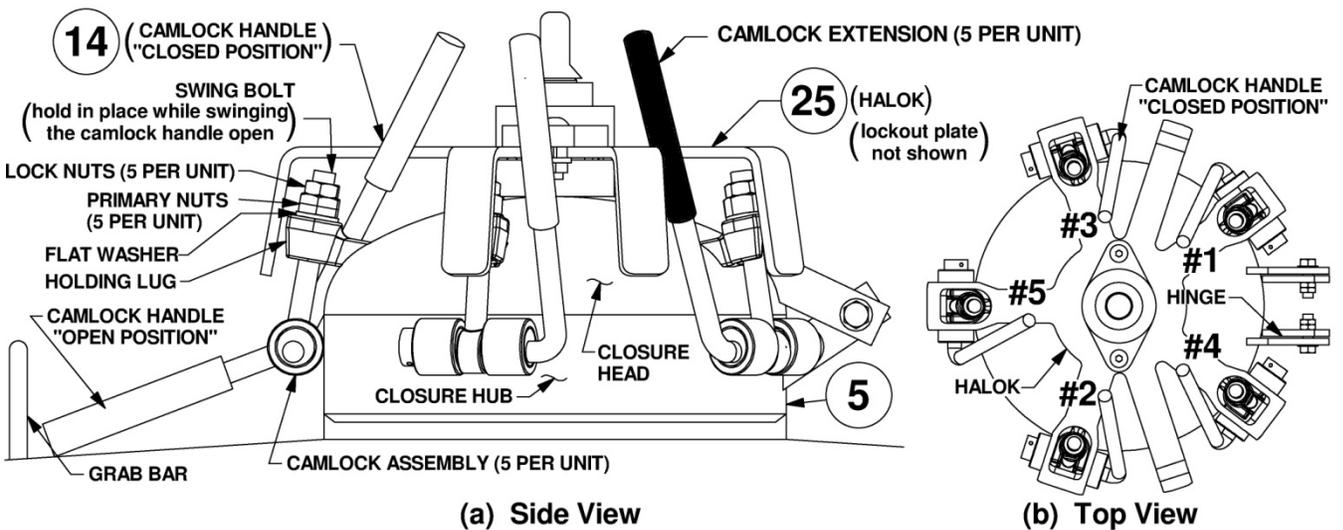

Figure 6.3.1 – Bulk Abrasive Blaster Closure Assembly
6.3.3. In the numbered sequence shown in Figure 6.3.1(b), swing each of the camlock handles (#14) of the closure (#5) into the “open position.” **DO NOT** swing any swing bolts out of the holding lugs. Hold the swing bolt within the holding lug with one hand, and swing each camlock handle down with the other hand. Note: The Halok® Assembly (#25) prevents the swing bolts from swinging out of the holding lugs until all camlock handles are in “open” position. See Figure 6.3.1.